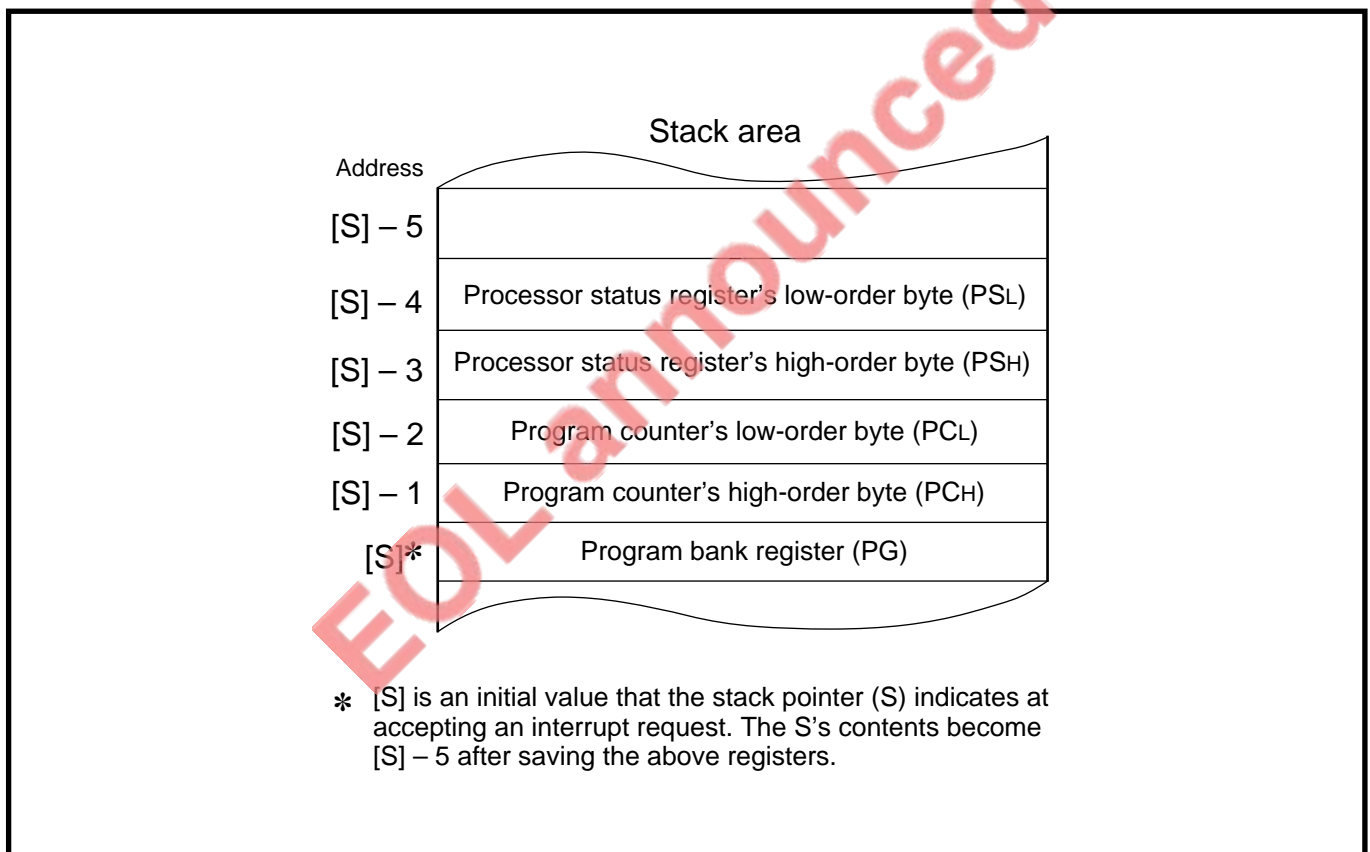

Fig. 4.1.2 State of stack area just before entering interrupt routine
- ① Program bank register (PG)
- ② Program counter (PCL, PCH)
- ③ Processor status register (PSL, PSH)
Figure 4.1.2 shows the state of the stack area just before entering the interrupt routine. Execute the **RTI** instruction at the end of this interrupt routine to return to the routine that the microcomputer was executing before the interrupt request was accepted. As the **RTI** instruction is executed, the register contents saved in the stack area are restored in order of registers ③→②→①, and a return is made to the routine executed before the acceptance of interrupt request and processing is resumed from it. When an interrupt request is accepted and the **RTI** instruction is executed, the only above registers ① to ③ are automatically saved and restored. When there are any other registers of which contents are necessary to be kept, use software to save and restore them.